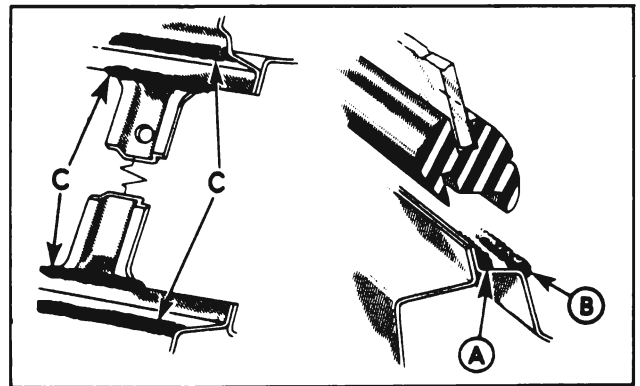

Figure 13-26—Location of Sealing Compounds
3. Apply a continuous $\frac{3}{16}$ " to $\frac{1}{4}$ " bead of 3-M Autobody Sealer in outer corner of pinchweld flange, completely around the opening, as indicated at "A" in figure 13-26.
5. Apply a bead of 3-M Weatherstrip Adhesive across the top and bottom of windshield center division bar, as indicated at "C" in figure 13-26.